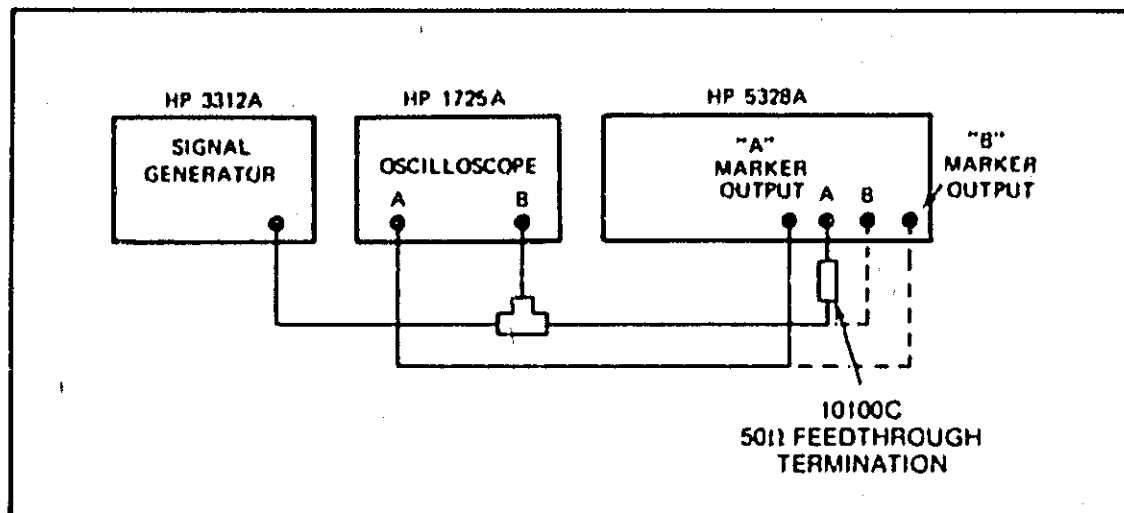

Figure 5-2. Sensitivity-Offset Adjustment Set-up, 10 kHz at 10 mVrms
e. Connect test equipment per Figure 5-2. For the HP 5328A Channel A adjustment, connect signal generator's output to HP 5328A INPUT A and to scope's Channel B; connect the scope Channel A to HP 5328A Channel A MARKER OUTPUT.